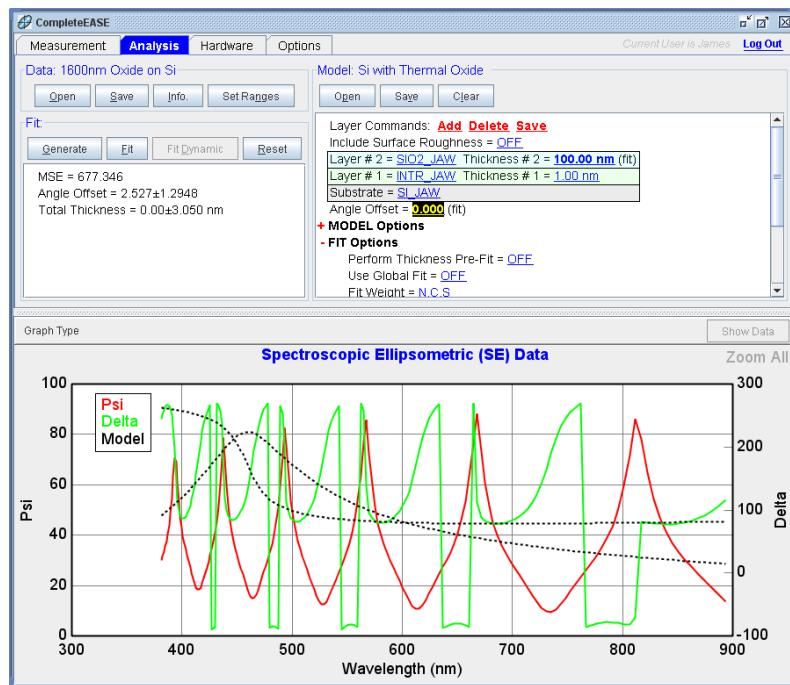

Figure 3-17. Data generated from “Si with Thermal Oxide” model, using default parameter values. The “Perform Thickness Pre-Fit” option is turned “OFF”.
One further concept will be demonstrated using “Si with Thermal Oxide” model. For this example, reload both the “Si with Thermal Oxide” model and the “1600nm Oxide on Si” example data file. From the **Model>+FIT Options** section, turn the “Perform Thickness Pre-Fit” option to “OFF” by clicking on the underlined blue value. Then press **Fit>‘Generate’**. The screen should appear as shown in Figure 3-17. Note that the data generated by the model (black dashed curves) using the default thickness (100nm) does not match the experimental data. Now click the ‘Fit’ button: the data fit is still very poor, and the reported MSE is very high (677). This illustrates what happens if you start the fit with parameter values that are not reasonably close to their best fit values.